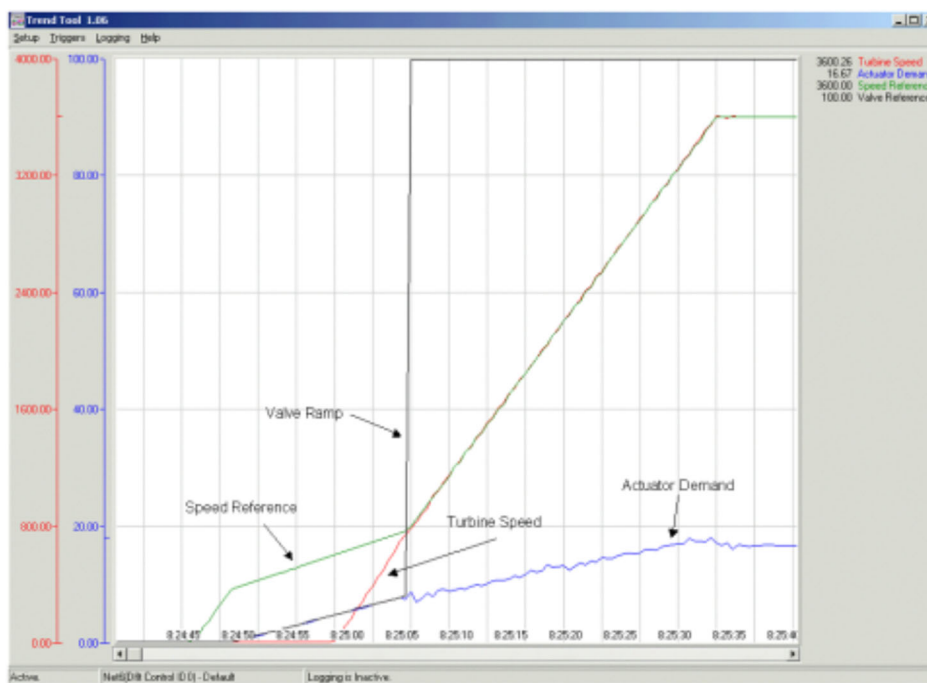

Figure 4-2. Automatic Start-Up
- Figure 4-2 is an example of an automatic start sequence.